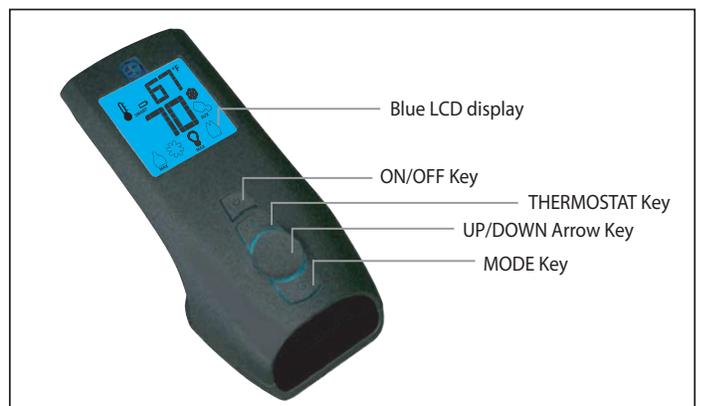
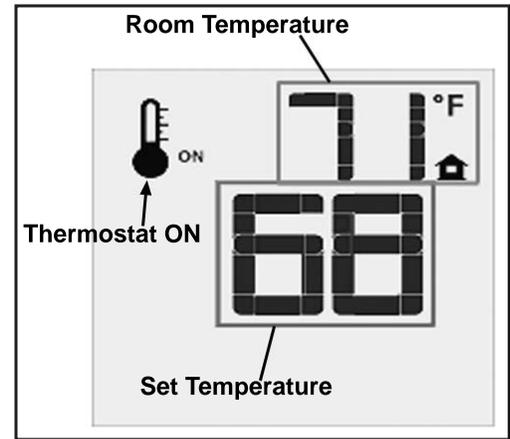
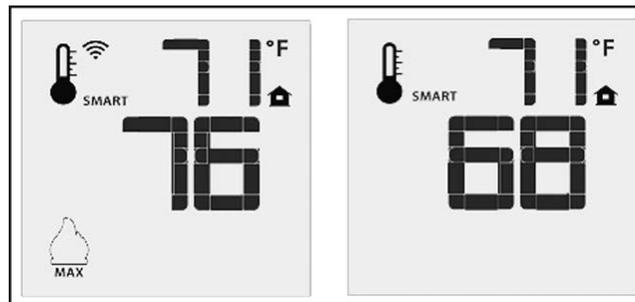
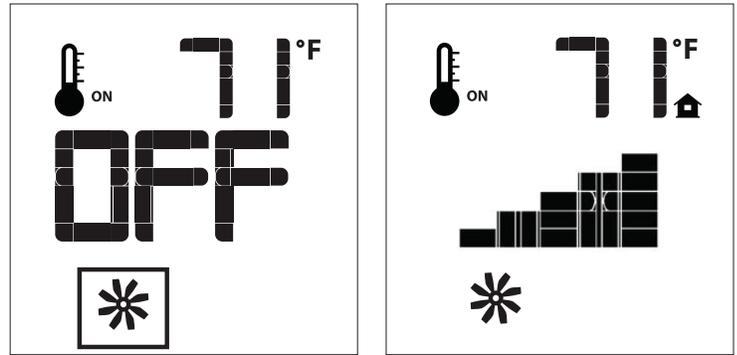

Figure 4: Proflame 2 Transmitter.
Figure 9: Remote Control Displays Set Temperature.
Figure 10: Remote Control's Smart Flame Function.
Figure 12: Fan Control
The Proflame 2 Transmitter is a black remote control with a blue backlit LCD display. It uses a streamline design with a simple button layout and informative LCD readout (Figure 5). The Transmitter is powered by three (3) AAA type batteries. A Mode Key is provided to Index between the features and a Thermostat Key is used to turn on/off or index through Thermostat functions (Figure 4 & 5)
Press the ON/OFF Key on the Transmitter. The Transmitter LCD display will only show the room temperature and Icon (see Figure 9). A single “beep” from the IFC confirms reception of the command and both the pilot light (if the unit is not set to continuous pilot) and main burner will turn off.
The Remote Control can operate as a room thermostat. The thermostat can be set to a desired temperature to control the comfort level in a room. To activate this function, press the Thermostat Key (see Figure 4). The LCD display on the Transmitter will change to show that the room thermostat is “ON” and the set temperature is now displayed (see Figure 9). To adjust the set temperature, press the Up or Down Arrow Keys until the desired set temperature is displayed on the LCD screen of the Transmitter.
The Smart Thermostat function adjusts the flame height in accordance to the difference between the set point temperature and the actual room temperatures. As the room temperature gets closer to the set point the Smart Function will modulate the flame down. To activate this function, press the Thermostat Key (Figure 4) until the word “SMART” appears to the right of the temperature bulb graphic (Figure 10). To adjust the set temperature, press the Up or Down Arrow Keys until the desired set temperature is displayed on the LCD screen of the Transmitter.
The S20I comes with a convection fan that can be controlled with the Transmitter. The fan speed can be adjusted through six (6) speeds. To control the fan press the MODE key (Figure 4) to index to the fan control icon (Figure 12). Use the UP/DOWN arrow keys to turn on, off, or adjust the fan speed (Figure 12). A single beep from the IFC will confirm the command has been received